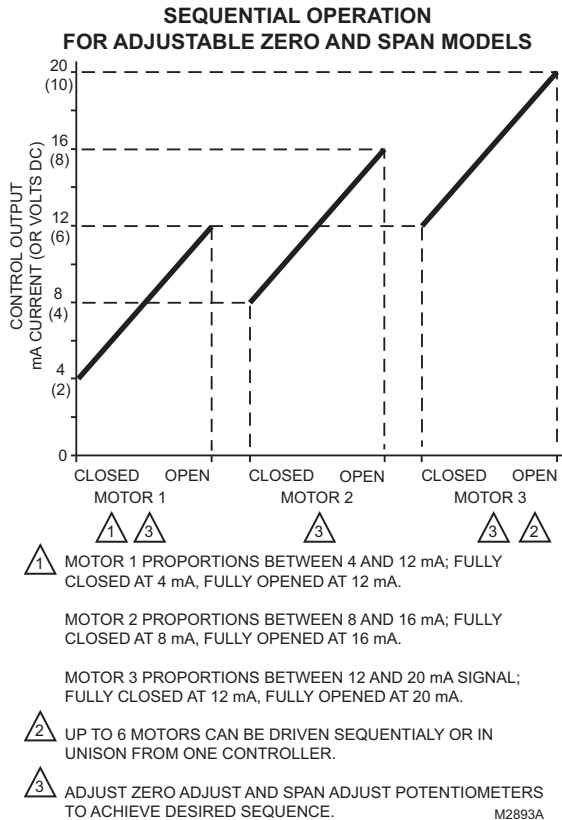

Fig. 6. Sequential operation of three motors with Q7230A Interface Module.
13. For sequential operation at two or more motors (as shown in Fig. 6), repeat the above steps for each motor, individually adjusting each for the desired response to the input signal.